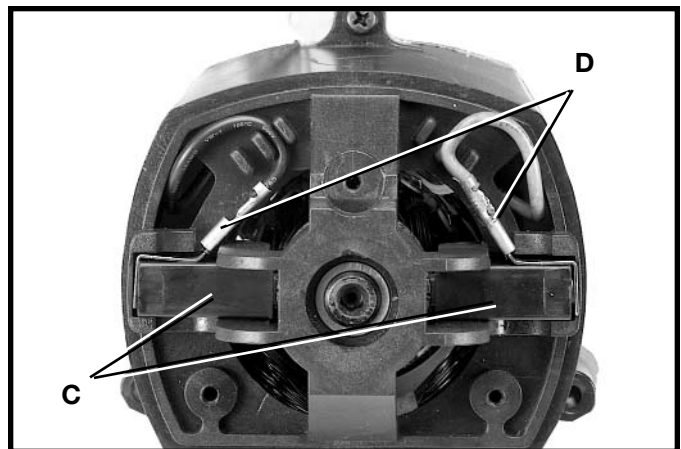

Fig. 44
3. The brushes are located in the two holders (C) Fig. 44. Remove spade type terminal connector (D) and pull out brush holders (C).